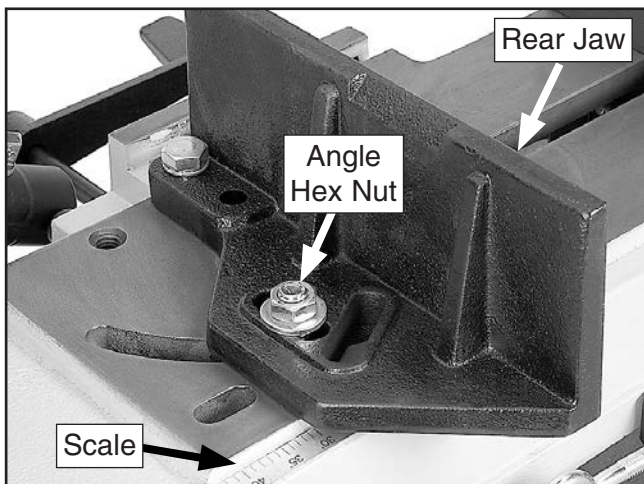

Figure 43. Location of rear jaw adjustment components.
1. Loosen angle hex nut on rear jaw shown in **Figure 43**.
2. Use scale to set angle of rear jaw (see **Figure 43**).